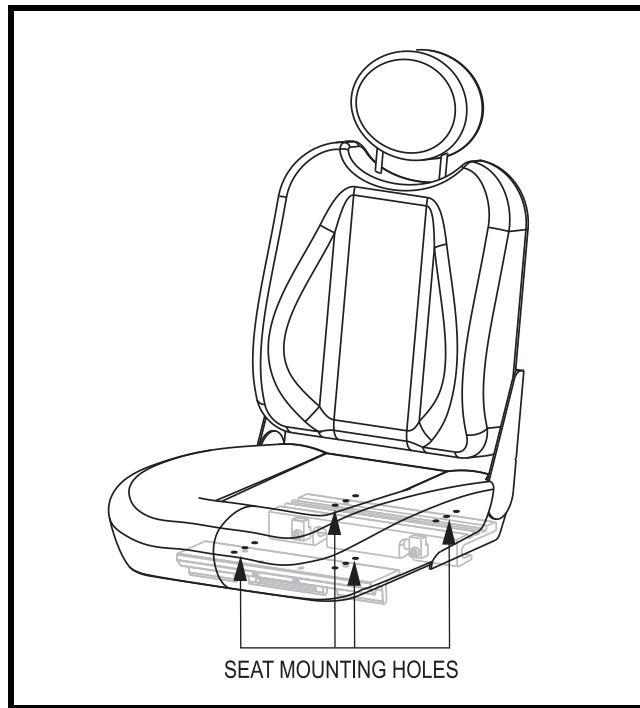

Figure 16. Seat Position Adjustment
5. Reposition the extrusions on a different set of mounting holes. You must move both extrusions the same number of holes either forward or backwards. **See figure 16.**